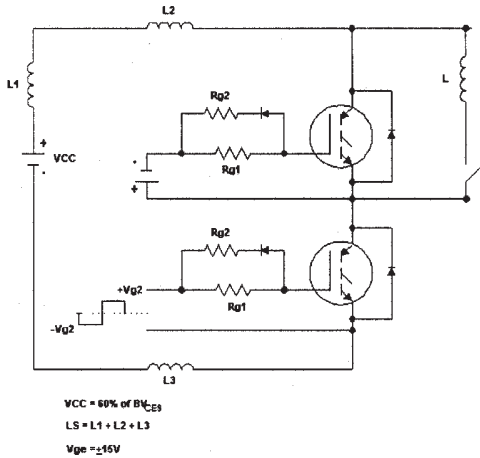

Fig. 17 - Test Circuit for Measurement of I_{LM} , E_{on} , $E_{off}(\text{diode})$, t_{rr} , Q_{rr} , I_{rr} , $t_{d(on)}$, t_r , $t_{d(off)}$, t_f
- ① Repetitive rating; $V_{GE} = 20V$, pulse width limited by max. junction temperature.
- ② See fig. 17
- ③ For screws M6.
- ④ Pulse width $80\mu s$; single shot.